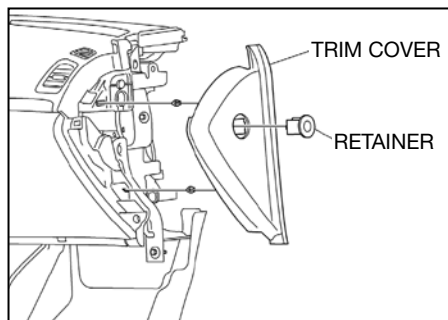

Fig. 21
1. Remove instrument panel trim cover (see Fig. 21).